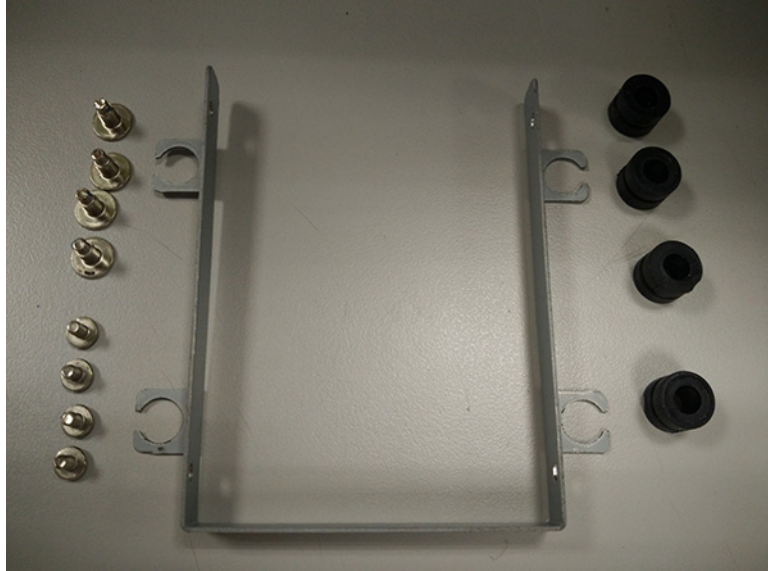

Figure 2.20
2. Take out the U type bracket, four black washers, four screws. (See Fig 2.20)